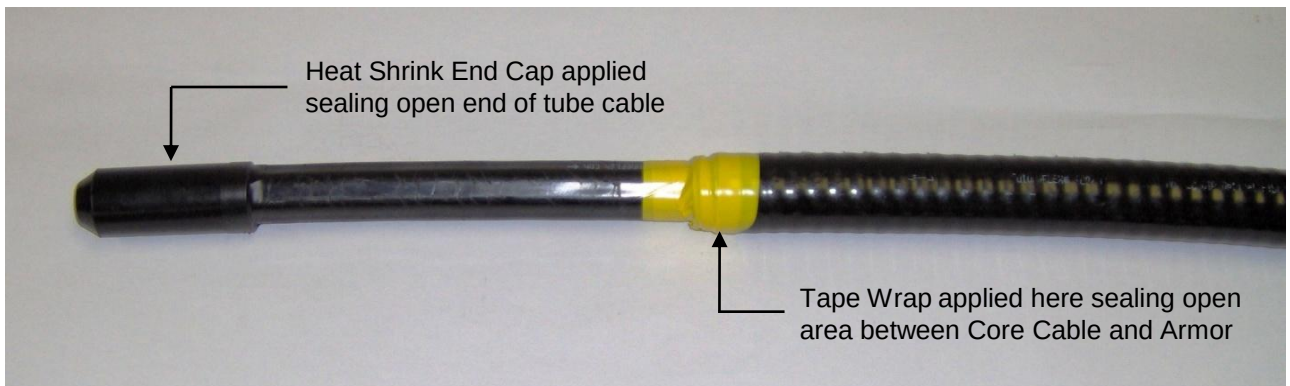

Figure 38
27.7 Apply a tape wrap around the end of the armor and over the core cable to keep water, mud, etc. from getting under the armor during the pull-in operation. **See Fig. 38.**